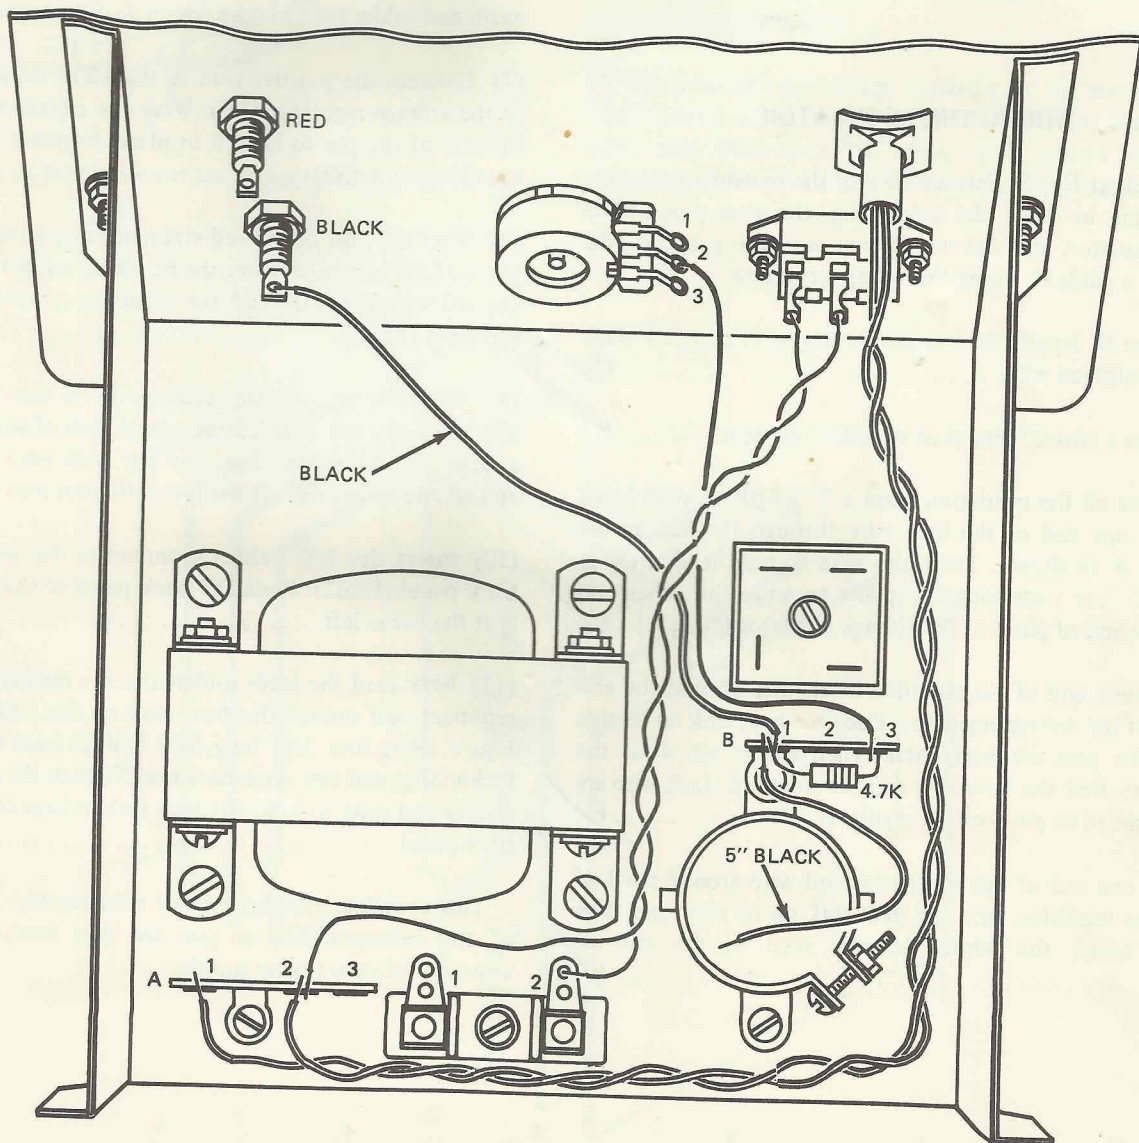

Fig. 10. Wiring the front panel.
(1) Place the chassis on your workbench and bring the front panel to the chassis as shown in Fig. 10. Insert the four screws through the panel and the sides of the chassis. Use a lockwasher and a 6-32 hex nut on each screw. After you have the four screws in place, tip the chassis on its side and insert the screws through the two remaining holes in the bottom chassis lip. Again, use lockwashers and 6-32 hex nuts. Tighten the two screws through the bottom lip of the chassis and then tighten the four screws through the panel and at the sides of the chassis (✓)
(2) Loosely twist together the two black leads connected to the on-off switch. Dress the leads against the chassis and route
them as shown in Fig. 10, connecting the shorter of the two leads to terminal 2 of the fuse holder (S1), and the longer to terminal 2 of the 3-lug terminal strip A (NS) near the rear of the chassis (✓)
(3) Loosely twist together the two leads from the pilot light and route them as shown in Fig. 10. Connect one lead to terminal 1 of the 3-lug terminal strip A (NS) and connect the other lead to terminal 2 of the 3-lug terminal strip (S3) . . . (✓)
(4) Connect the 4.7k-ohm resistor from terminal 1 (NS) to terminal 3 (NS) of terminal strip B (✓)
(5) Connect the stranded black wire from the black jack on the front panel to terminal 1 of the 3-lug terminal strip B (NS) (✓)
(6) Prepare a 5" length of stranded black wire and connect one end of it to terminal 1 of terminal strip B (S4) (✓)
(7) Connect the solid red wire from terminal 2 of the potentiometer to terminal 3 of terminal strip B (NS) (✓)